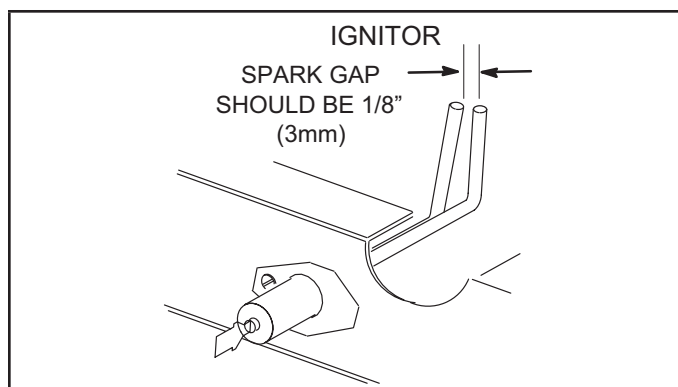

FIGURE 35
- 5 - Locate the ignitor under the right burner. Check ignitor spark gap with appropriately sized twist drills or feeler gauges. See FIGURE 35.